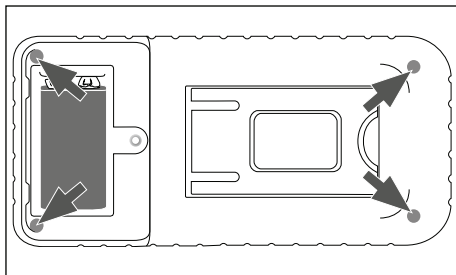

Fig. 5
- ◆ Loosen the four screws at the back of the device and remove the back panel (see Fig. 5).